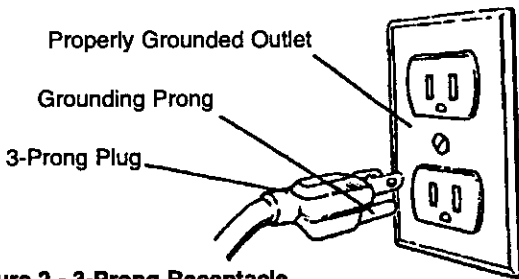

Figure 2 - 3-Prong Receptacle
- This tool is equipped with an approved cord rated at 150V and a 3-prong grounding type plug (see Figure 2) for your protection against shock hazards.
- Grounding plug should be plugged directly into a properly installed and grounded 3-prong grounding-type receptacle, as shown (see Figure 2).